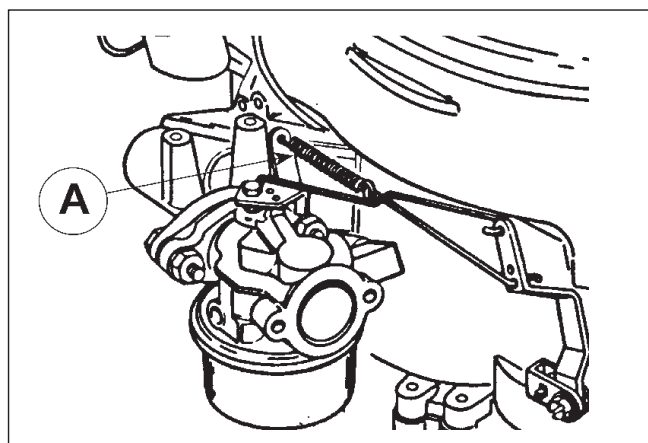

Fig. 24-1
i) FIXED SPEED CARBURETTORS. (Fig 24-1)